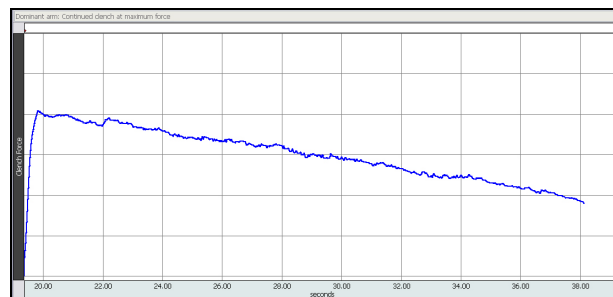

Fig. 2.12 Example Fatigue data
- If similar to Fig. 2.12, click **Continue** and proceed to the next recording.